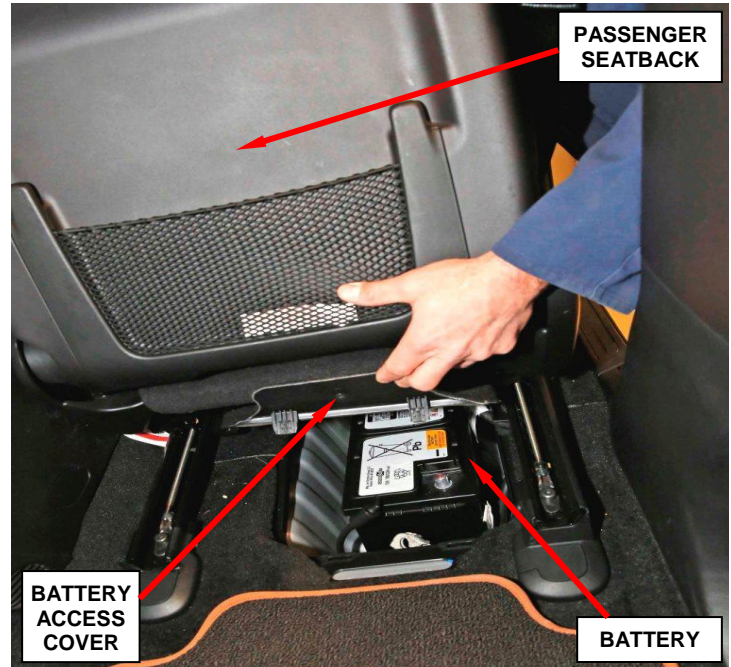

Figure 10 – Battery Access
2. Open the battery access cover located under the passenger front seat and disconnect the negative battery cable (Figure 10).
NOTE: The plastic tie strap that holds the wire harness to the wire cover must be cut off and discarded (Figure 10).